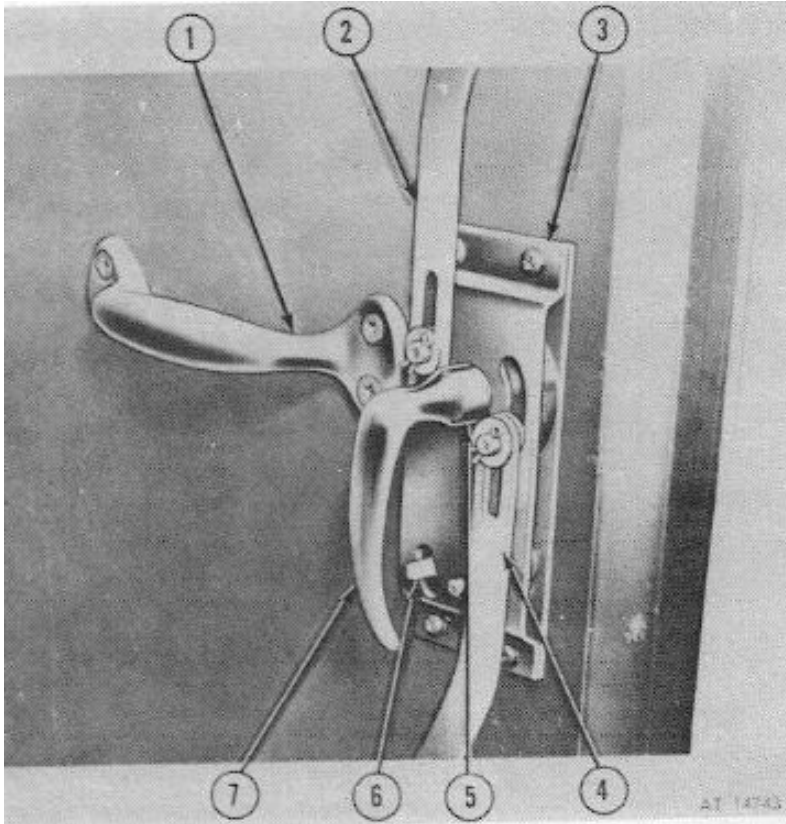

Figure 2-105. Rear door lock and latches.
- (1) Remove two upper hinge-to-hinge pillar bolts.
- (2) Support door and remove two lower hinge-to-hinge pillar bolts and remove door assembly.
- o. Rear Door Locks and Latches. (Fig 2-105)
- (1) Remove two cotter pins securing latch rods to top and bottom door locks.
- (2) Remove flat washers, latch rod ends and spring washers from pins to lock assembly.
- (3) Remove four screws securing latch to rear door panels.
- (4) Remove door locks and latches from rear doors.
- (1) Support door and install the two lower hinge-to-hinge pillar bolts. Do not tighten bolts.
- (2) Install the two upper hinge-to-hinge pillar bolts.
- (3) Adjust door to cab opening and tighten bolts.
o. Rear Door Locks and Latches. (Fig 2-105)
- (1) Position locks and latches on rear door and secure with screws.
- (2) Install spring washers, latch rod ends and flat washers onto the lock assembly pins and secure with cotter pins.